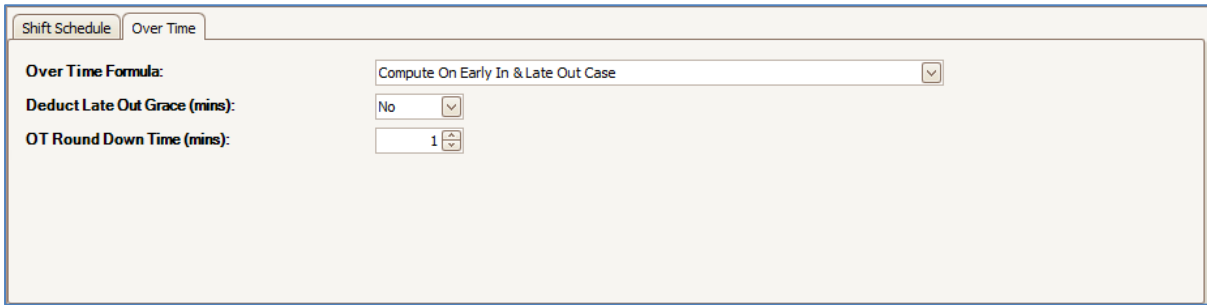

Figure 64 - Over Time tab
4. If you click on Over Time tab, the following screen will be shown (Refer **Figure 64**).